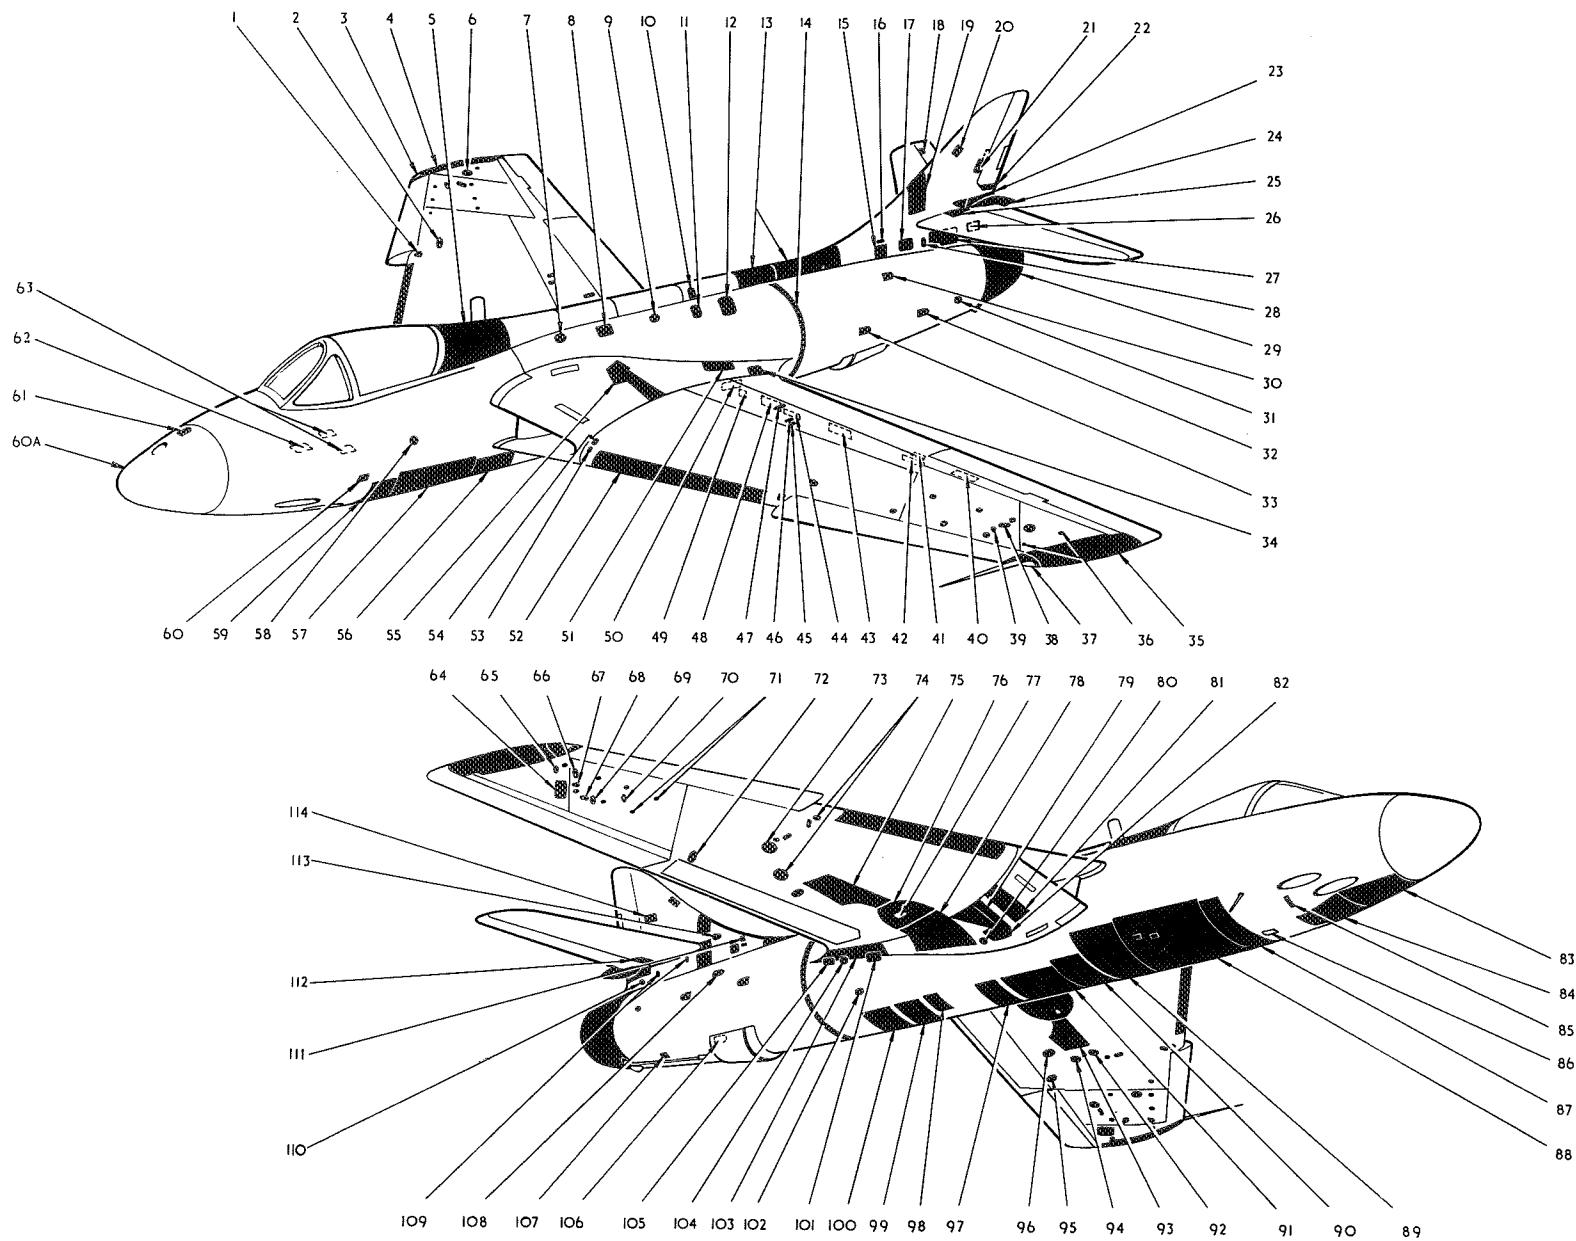

Fig.3 Access panels
5. The position of the access doors and removable panels are shown in fig. 3, the components to which they give access being given in the key. When handling the doors and panels, care should be taken to ensure that they are not damaged or distorted in any way. When re-fitting them, ensure that they fit flush with the surrounding surface and that they are secure and effectively locked.
KEY TO FIG.3 (ACCESS PANELS)